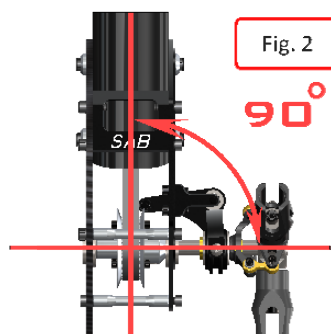

Fig. 2
- \*Check that the tail output shaft is perpendicular to the tube. (**figure 2**)